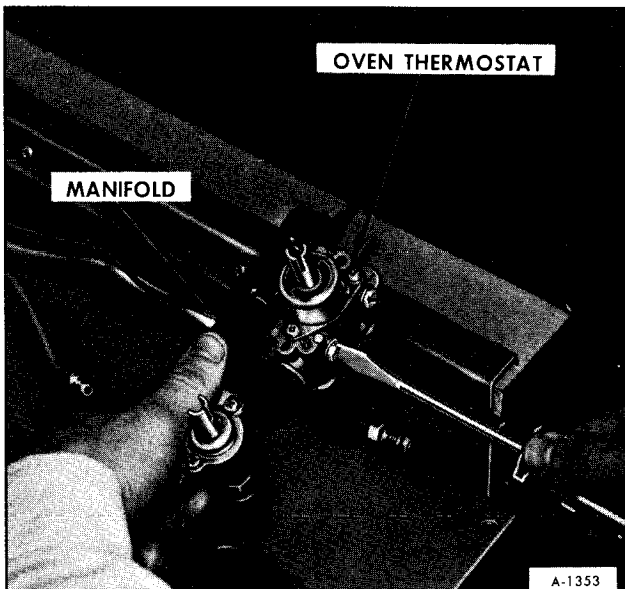

Figure 13—Removing Thermostat From Manifold
9. Turn manifold over and remove the two screws (figure 13) holding thermostat control and remove it from manifold.